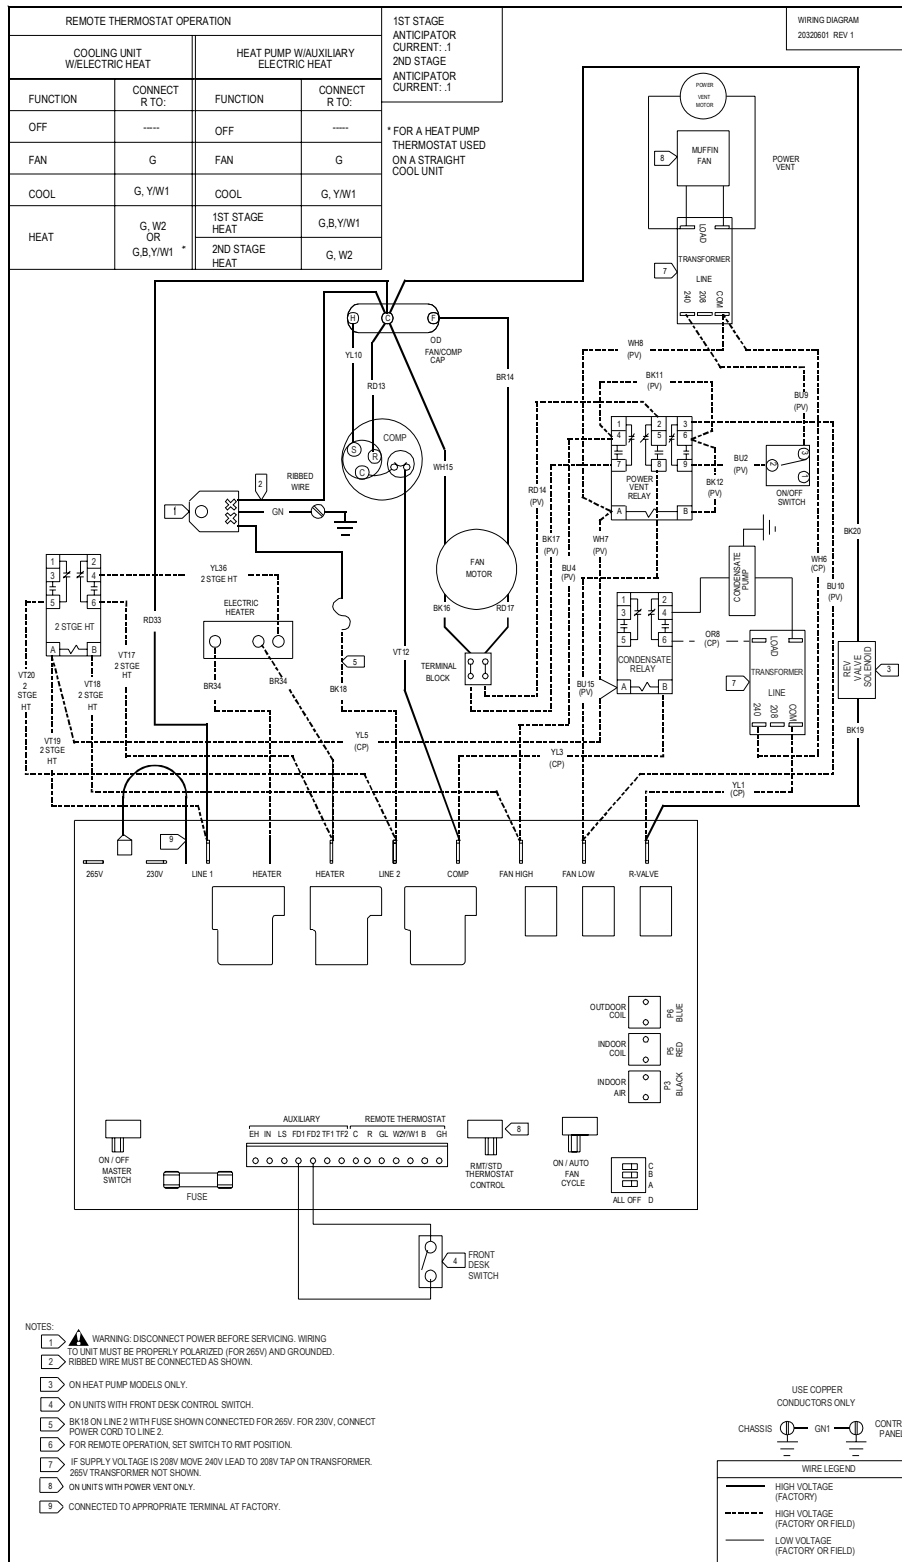

Figure 15
25. Units that have a Power Vent or Power Door Kit and a two stage heater already installed in the chassis should refer to Figure 15 for proper wiring of the condensate pump kit.